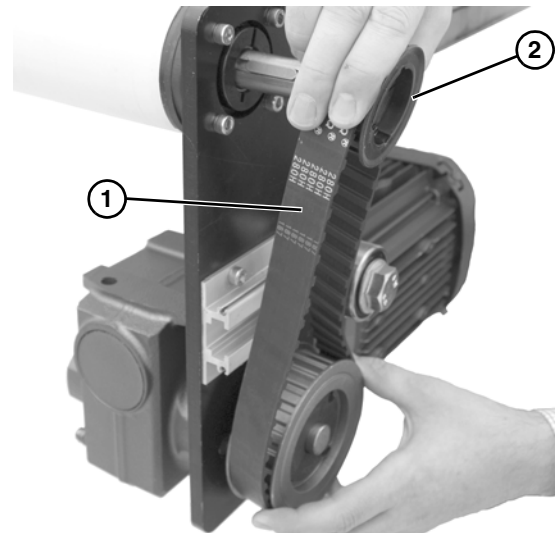

Figure 20
3. Remove timing belt (**Figure 20, item 1**).
If timing belt does not slide over pulley flange, loosen driven pulley taper-lock screws (**Figure 20, item 2**) and remove pulley with belt (**Figure 20, item 1**). For re-installation, see steps 6 thru 8 on beginning on page 8.